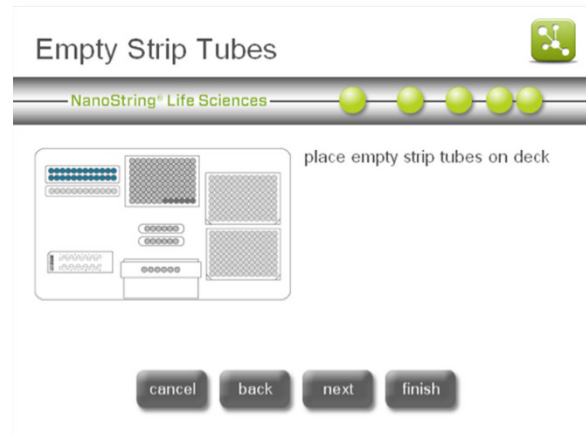

Figure 28: The 'Empty Strip Tubes' screen.
- The 'Empty Strip Tubes' screen will appear (**Figure 28**). Place the empty strip tubes on the deck.